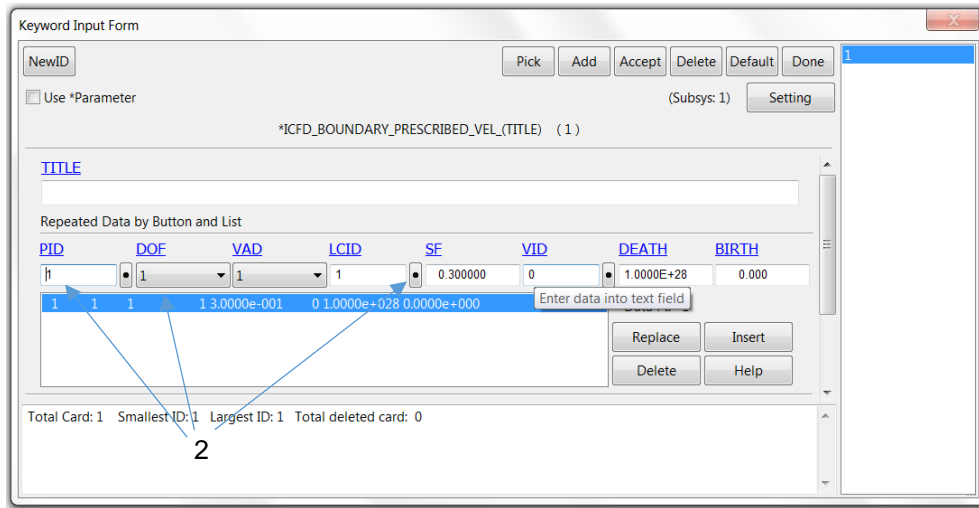

Figure 9 \*ICFD\_BOUNDARY\_PRESCRIBED\_VEL keyword.
2. To define the boundary condition for the Inlet, double click on \*ICFD\_BOUNDARY\_PRESCRIBED\_VEL, see figure 9. Select part 1 which is the inlet, then set DOF to one since the